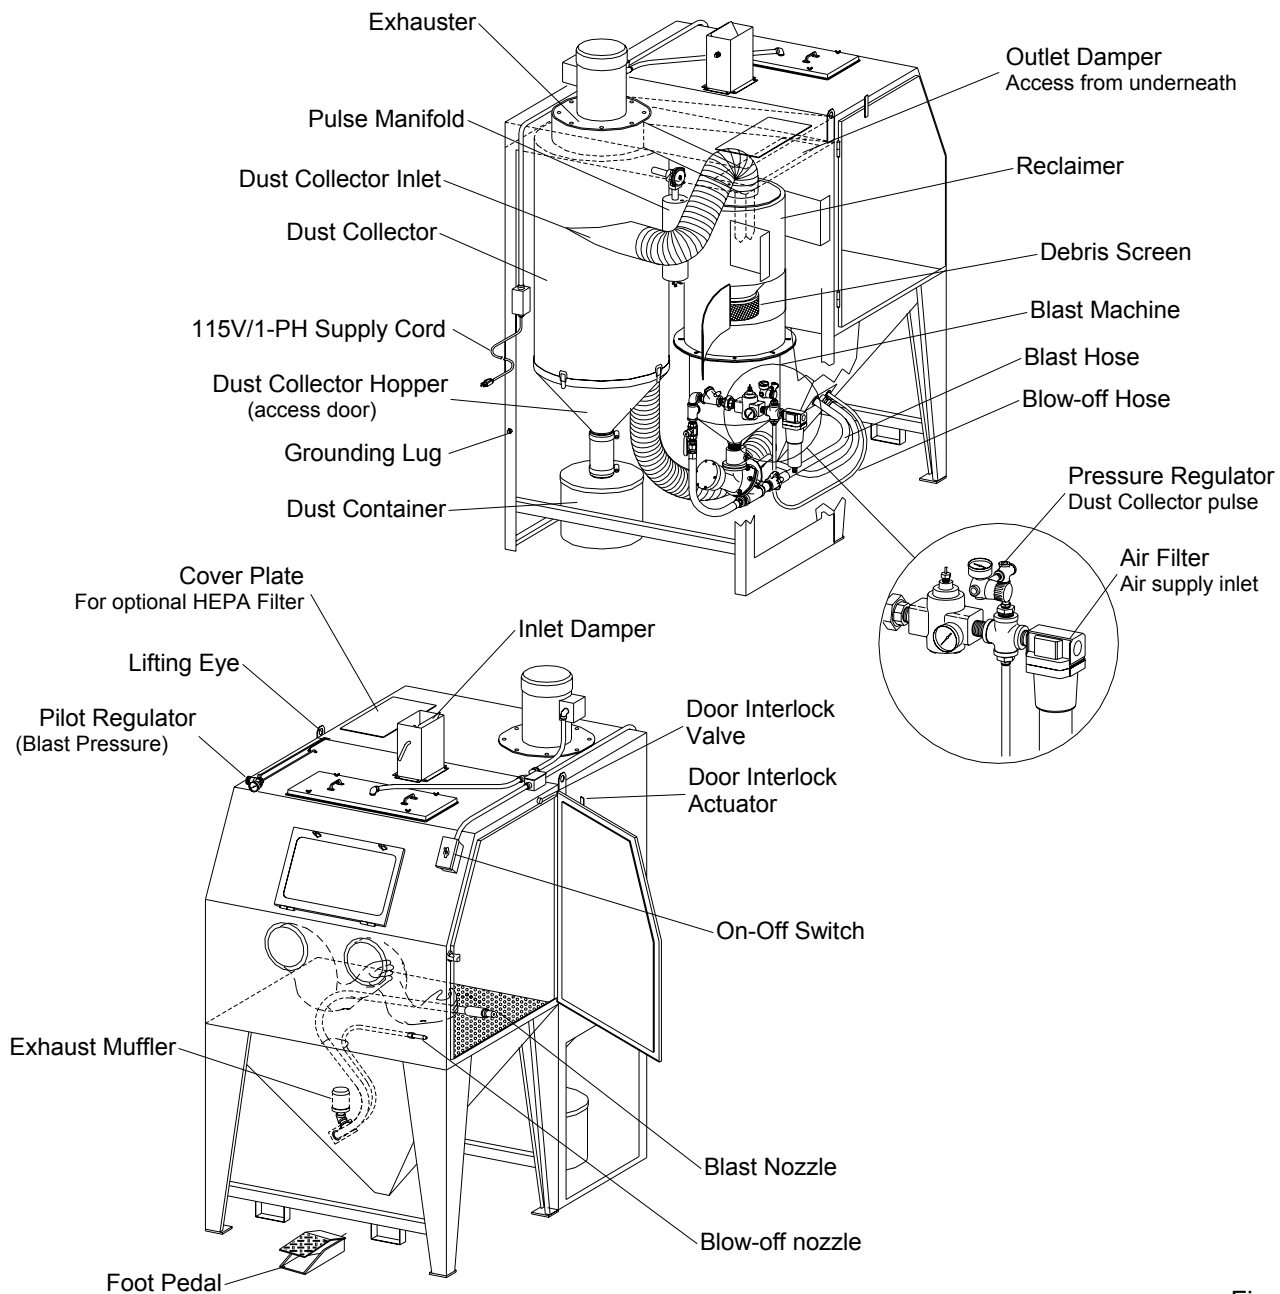

Figure 1
**1.3.1** The Pulsar pressure cabinet encloses the blasting environment to provide efficient blast cleaning while maintaining a clean surrounding work area. Production rates are influenced by size of nozzle, compressor output, working pressure, type and size of media, and angle and distance of the nozzle from the blast surface. See Figure 1 for arrangement of components. Pulsar pressure cabinets consist of four major components.